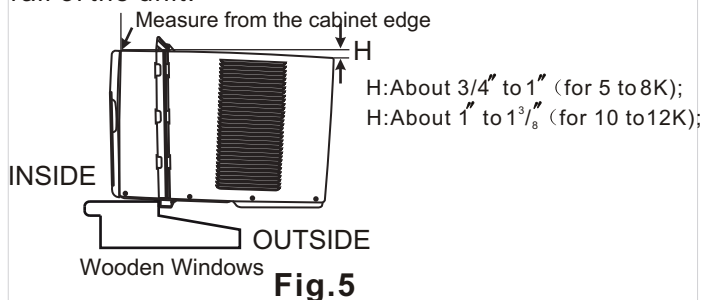

Fig.5
- A. Keep a firm grip on the air conditioner, carefully place the unit into the window opening so the bottom of the air conditioner frame is against the window sill (Fig.5). Carefully close the window behind the top rail of the unit.
NOTE: Check that air conditioner is tilted back about H (Fig.5)(tilted about 3° to 4° downward to the outside). After proper installation, condensate should not drain from the overflow drain hole during normal use, correct the slope otherwise.